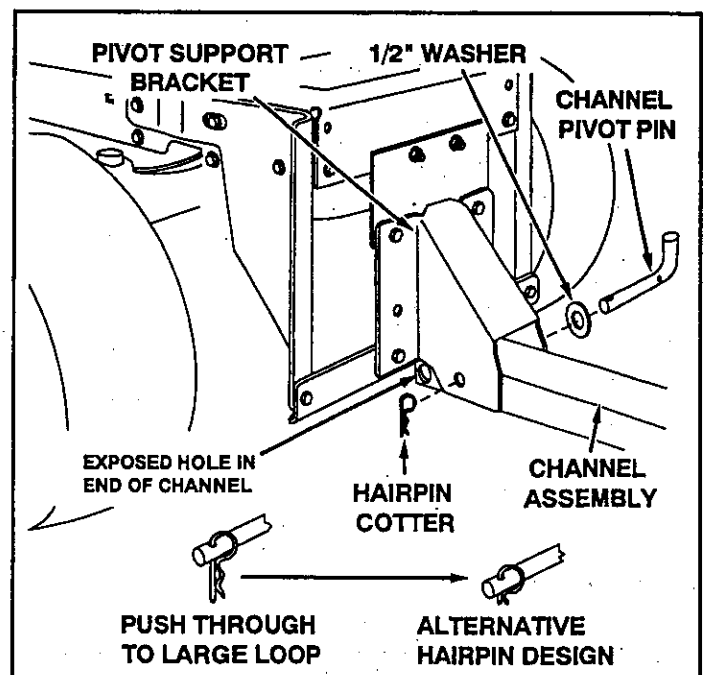

FIGURE 14 (Right Hand Side View)
- Assemble the 1/2" washer onto the channel pivot pin. See figure 14.
- Attach the channel assembly to the tractor by placing the end of the channel assembly up inside the pivot support bracket on the tractor. Align the hole in the pivot support bracket with the second hole from the end in the channel assembly. Insert the channel pivot pin through the aligned holes from the left side and secure with a hairpin cotter pushed all the way through to the loop end. See figure 14.
- Remove the hairpin cotter from the channel pivot pin and remove the pivot pin from the channel assembly. See figure 14 on page 8.